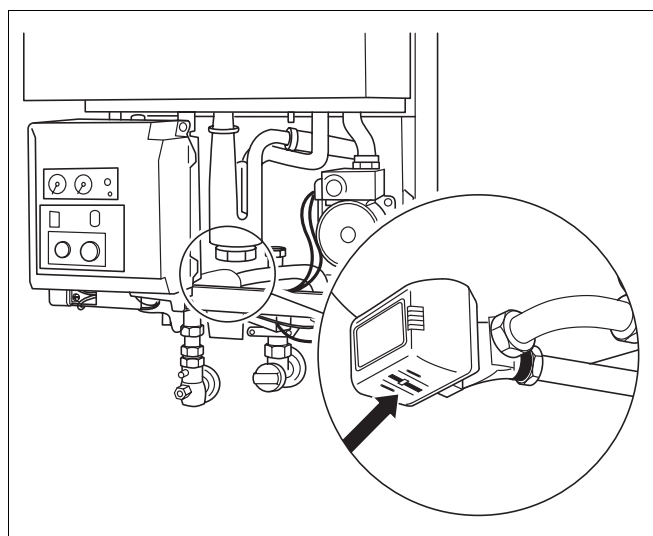

Fig. 2 Three-way valve
- Set three-way valve to the middle setting (applicable for 24C only). This is done by pushing the lever on the three-way valve (fig. 2) with a screwdriver to the middle setting.